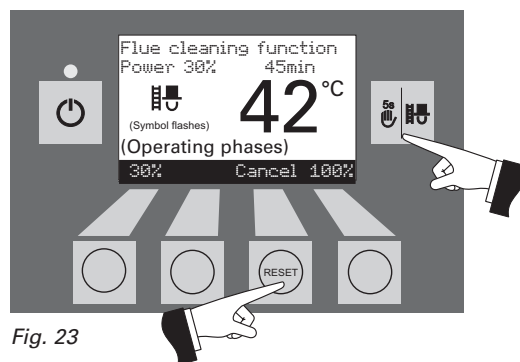

Fig. 23
- when the *Cancel* button is pressed – Fig. 23.